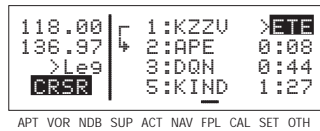
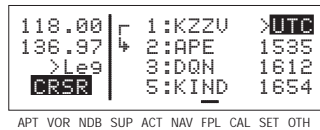
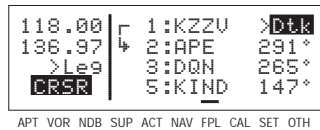

Figure 4-141
Figure 4-142
Figure 4-143
2. Press **CLR**. Subsequent presses of the **CLR** button will cycle through **ETE** in hours:minutes (figure 4-141), **ETA** in terms of the system time zone (figure 4-142), magnetic **Dtk** (figure 4-143), then back to **Dis**.